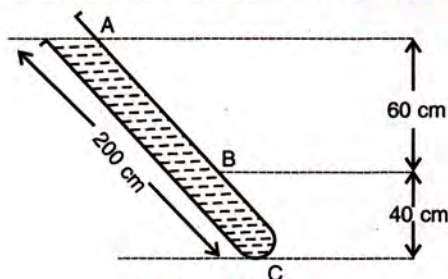

Fig. 4.10
7. In Fig. 4.10, a tube of length 200 cm filled with a liquid of density $0.90 \times 10^3 \text{ kg m}^{-3}$ is placed inclined with the vertical such that the level A of liquid in the tube is at a vertical height 100 cm from its lowest point C. There is a point B in the tube below the point A at a vertical depth 60 cm.